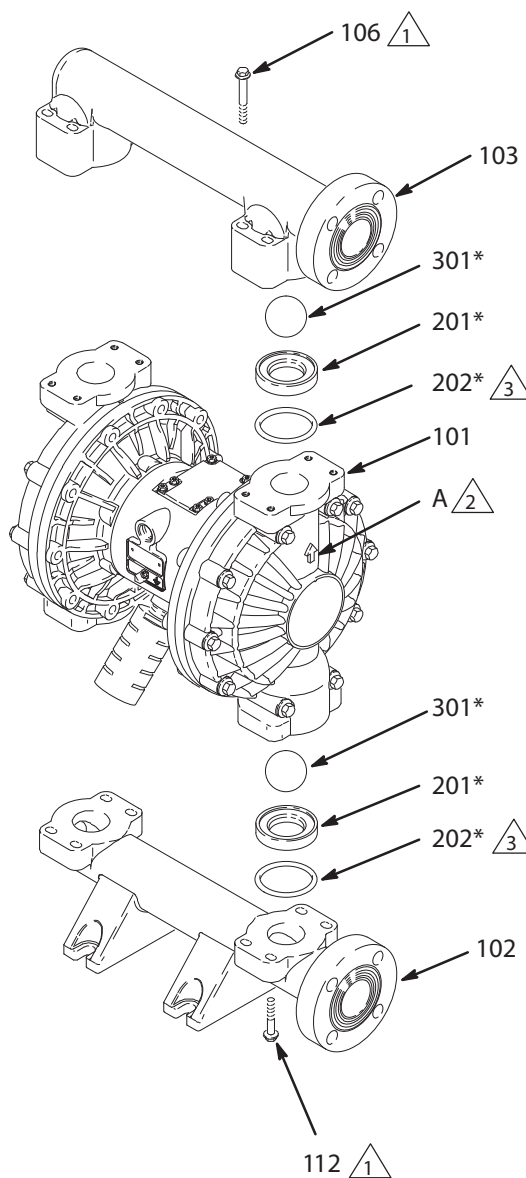

Fig. 11
3. Using a 10 mm socket wrench, remove the eight bolts (106) holding the outlet manifold (103) to the fluid covers (101). See Fig. 11.
4. Remove the seats (201), balls (301), and O-rings (202) from the manifold.
2. Reassemble in the reverse order, following all notes in Fig. 11. Be sure the ball checks are assembled **exactly** as shown. The arrows (A) on the fluid covers (101) **must** point toward the outlet manifold (103).